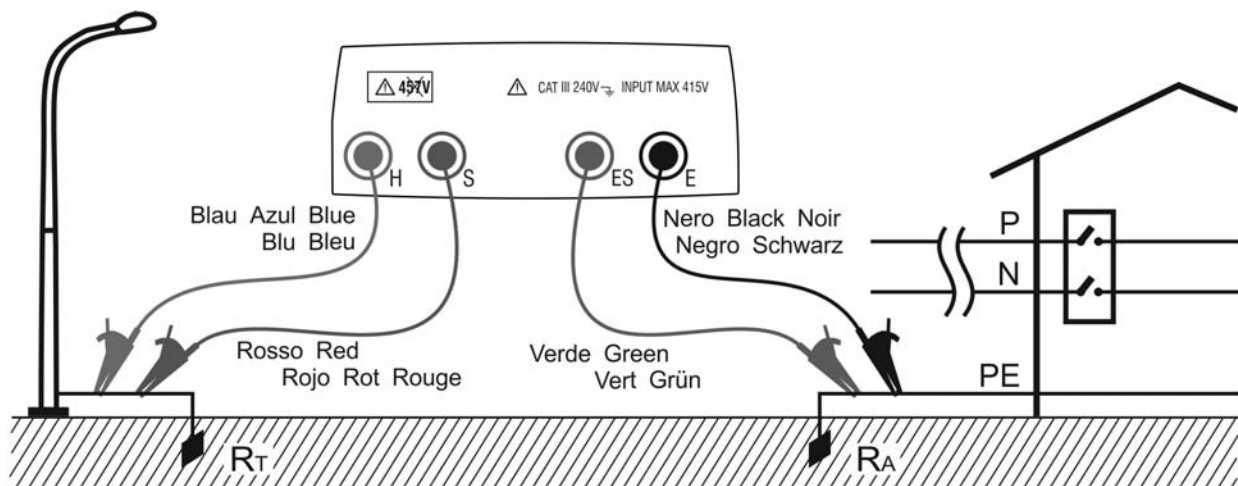

Fig. 4: Two-wire earth resistance measurement using an auxiliary rod
In Fig. 4 a lamp post is used as auxiliary rod, however any metal body driven into the ground can be used provided that the above mentioned requirements are met.
The instrument displays the sum value of $R_A + R_T$ as result (see Fig. 4 and Fig. 5). Therefore the measurement achieved is the closer to R_A (prospective value) the more negligible is the value R_T of the auxiliary rod with respect to R_A itself. In addition the measurement will be increased “for safety sake” by R_T , i.e. if $R_A + R_T$ results to be coordinated with protective conductors, R_A alone will be far more coordinated
6. Connect crocodiles to the auxiliary rods and to the installation under test (see Fig. 4 and Fig. 5)